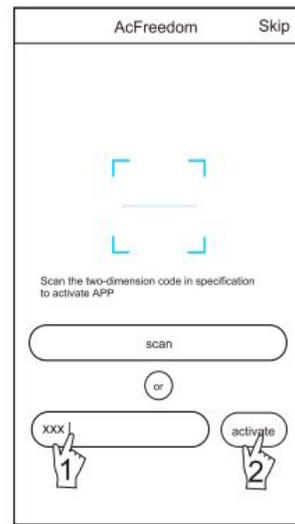

figure 4
2. By entering the activation code (6364qd) in the area prompted by «enter activation code» (see Fig.4)